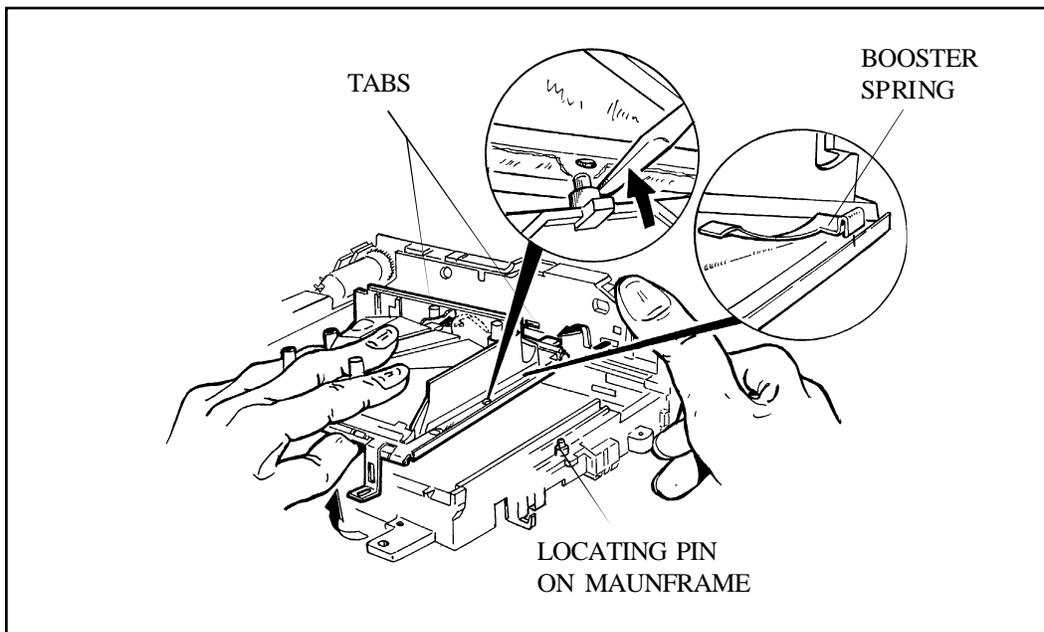

Figure 3-31. Removing Bellows/Cone Assembly from Mainframe
- d. Lift the Bellows/Cone Assembly off the two locating pins on the Mainframe (Figure 3-31).
- e. Using one hand to keep the Bellows/Cone Assembly collapsed, lift up the Erect Spring end of the Bellows/Cone Assembly and slide it out of the Mainframe (Figure 3-31). (There are two tabs on the Assembly which must be freed from their mounting slots on the back of the Drive System.) Remove the Booster Spring from the Bellows rail.